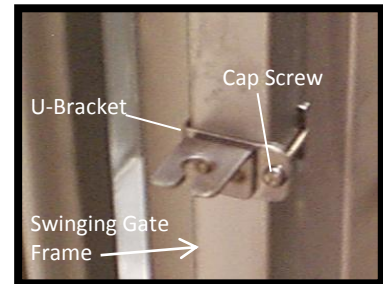

Figure 74: Handle Holder in Place on Swinging Gate
3. With a flat-blade screwdriver, remove the cap screw that secures the handle holder in place (Figure 74).